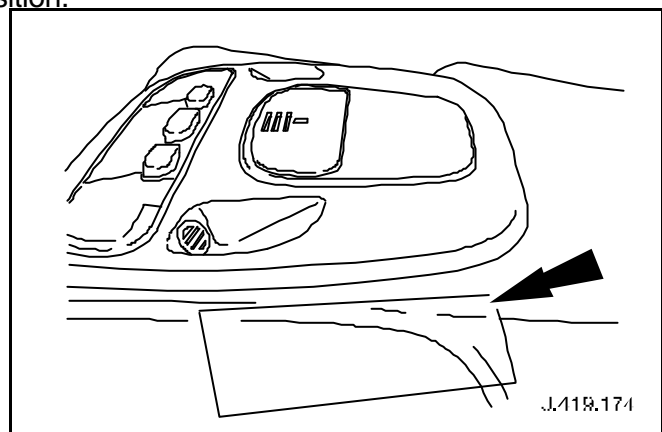

Fig. 1
- 6 Apply masking tape to driver's side of headlining (see Fig. 1).